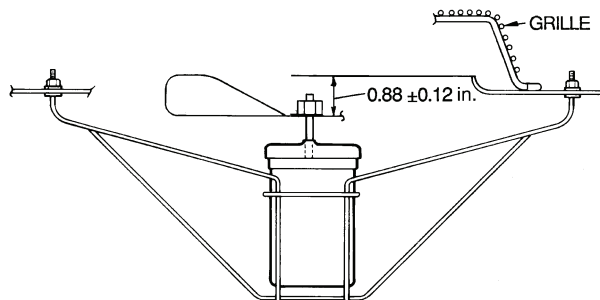

Fig. 70 — Condenser-Fan Adjustment
4. Adjust fan height on shaft using a straightedge placed across venturi and measure per Fig. 70.